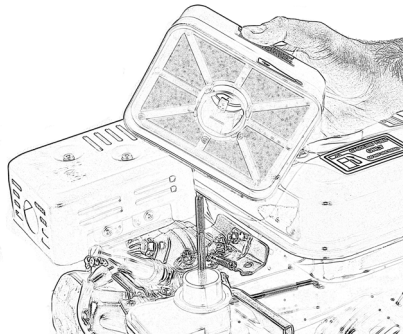

Figure 21
- Open the wing nut on the top of the air filter housing and pull the housing upwards, Fig. 21.